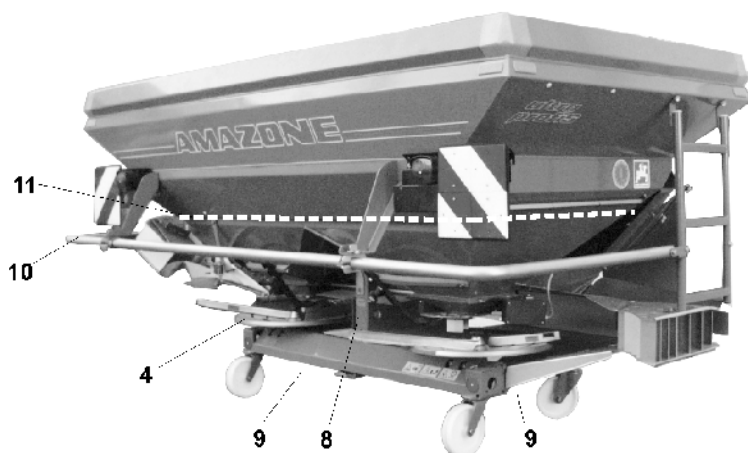

Fig. 2
- Omnia-Set spreading discs (Fig. 2/4)
- Chain guard of agitator shaft drive (Fig. 2/8)
- Guard for shaft between centre and angular gearbox (Fig. 2/9)
- Guard tube (Fig. 2/10)
- Guard screen in hopper (Fig. 2/11)